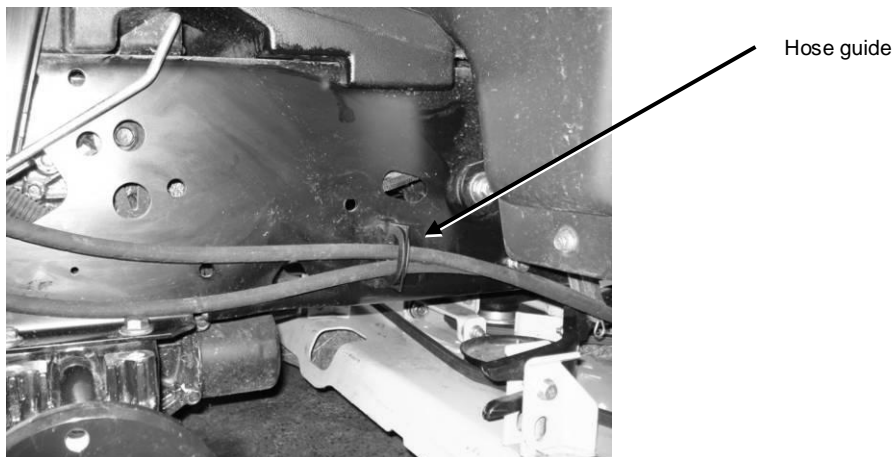

Fig. 15: Route the hydraulic extension through the hose guide
6. Route the hydraulic lines through the hose guide (see Fig. 15).